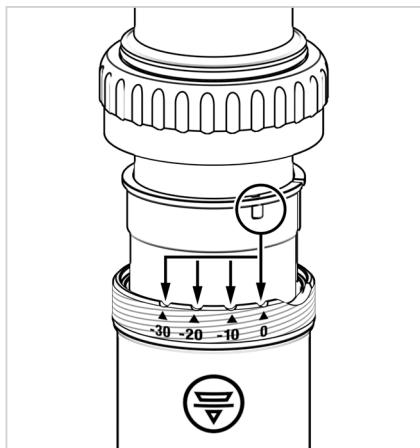

Figure 1
4. Locate the recess at the top of the exposed threads and use your fingernail to push up on the lip of the bushing (Figure 1).